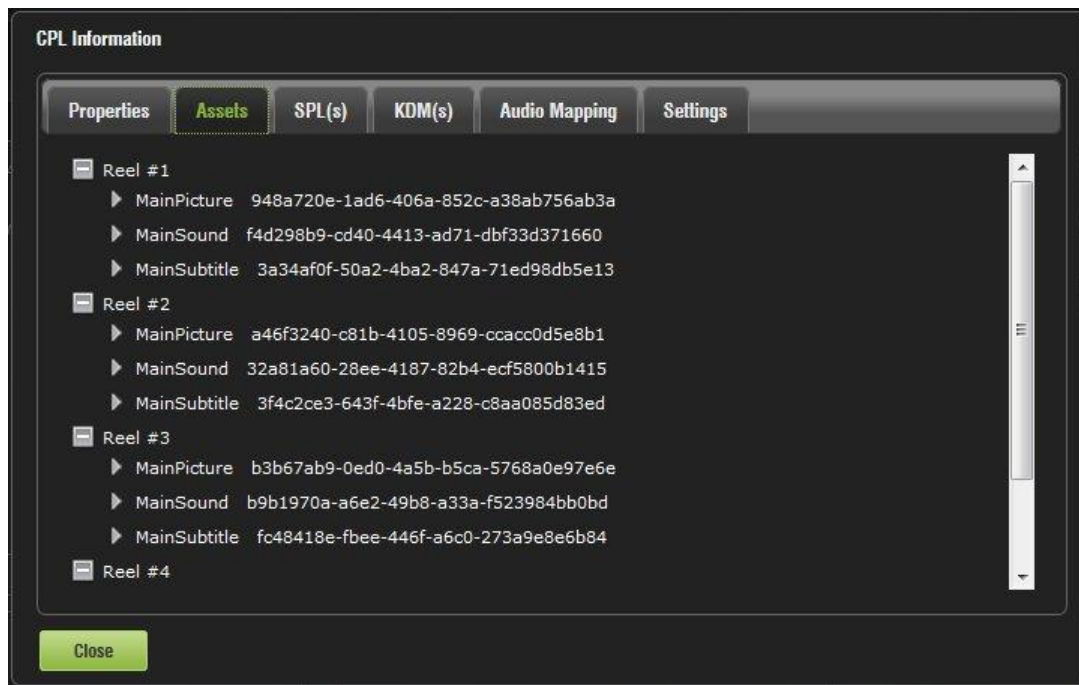

Figure 288: CPL Information Window - Assets Tab
- The Assets tab (Figure 288) displays information on all the Reels that compose the CPL and the Assets in each Reel (Reel number, subtitle, and sound).